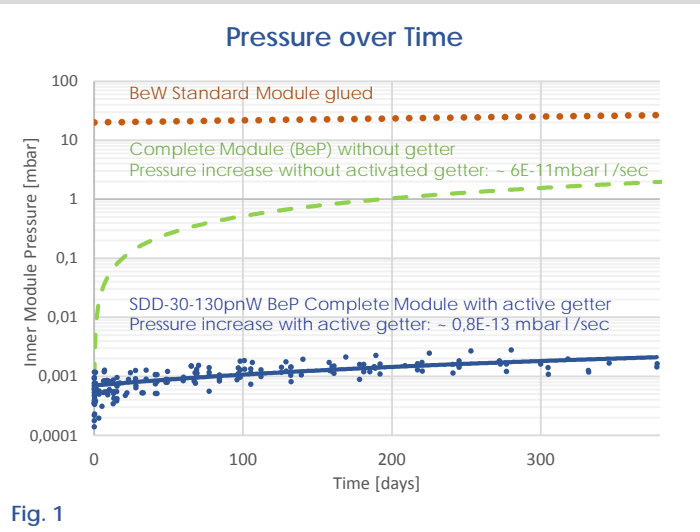

Fig. 1
**Real vacuum** housing with metallic lid-sealing, adapted glass pin insulation as well as vacuum proved housing materials, result in leakage / outgassing rates less than  $1 \cdot 10^{-10}$  mbar l/s (see fig. 1).